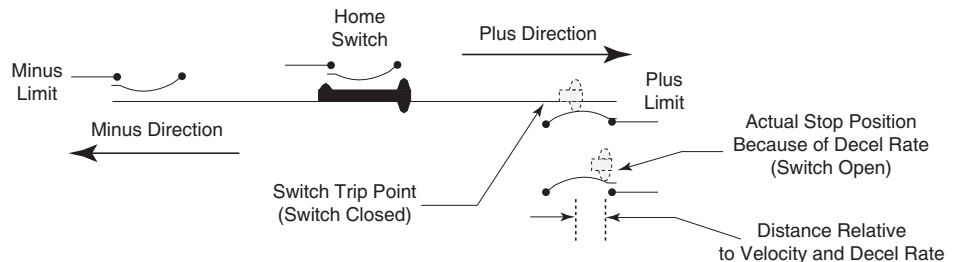

Figure 5.2 Limit modes of operation
Modes	<p>1 Normal Limit function with a decel ramp.</p> <p>The I/O must be set for Limits (S1-S4, S9-S12 Command). If the limit switch in the direction of travel is reached, the motion will decel to a stop. That is, the plus limit works only in the plus direction of travel and the minus limit works only in the minus direction of travel.</p> <p>In Figure 5.2, the Limit is activated at a given position but because of the deceleration rate the motion continues for the duration of the deceleration time. This position may be beyond the trip point of the limit and a subsequent move in the same direction will not stop. A crash may be imminent.</p> <p>If the limit is activated and maintained the software will allow motion only in the opposite direction.</p> <p>If Homing (HM) is active and a limit is reached, the motion will decel to a stop and then reverse direction and seek the Homing Switch. If the Homing Switch is not activated on the reverse and the opposite limit is reached all motion will stop with a decel ramp. (See HM)</p>